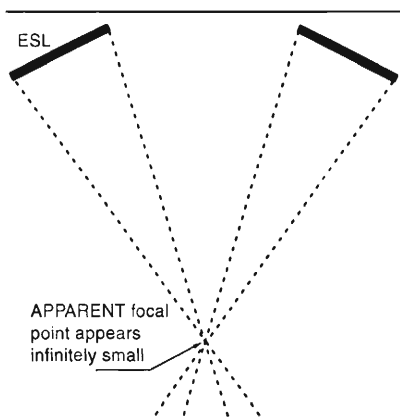

FIGURE 16-2: Focus is infinitely small despite wide beam.
- A single planar speaker has a tweeter beam as wide as the speaker. When you cross the beams from two ESLs during stereo listening, they subjectively become infinitely narrow (*Fig. 16-2*).